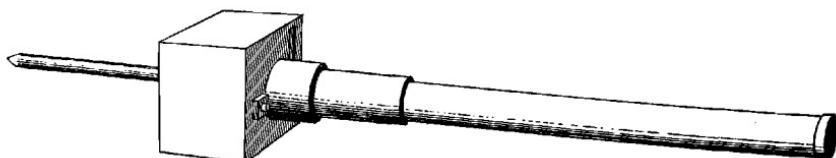

Figure 6.—Japanese "Barrage" Mortar.
(1) *Description.*—The "barrage" mortar (see fig. 6) is a simply designed weapon for area bombardment. It consists of a smooth-bore tube, approximately 70-mm in diameter and 4 feet long; a base plate, a rectangular wooden block, and an iron rod, which holds the mortar in an upright position and controls the angle of elevation for firing. The wooden block, 12 inches long, 10 inches wide, and 8 inches thick, is used to absorb the shock during firing and to prevent the base plate from digging into the ground. The base plate is fastened to the block by two bolts. The iron rod, about 1 inch in diameter and 18 inches long, is fastened to the bottom of the block and extends straight down.